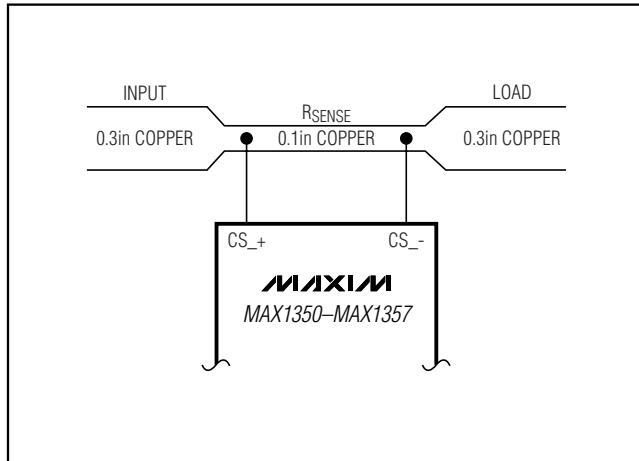
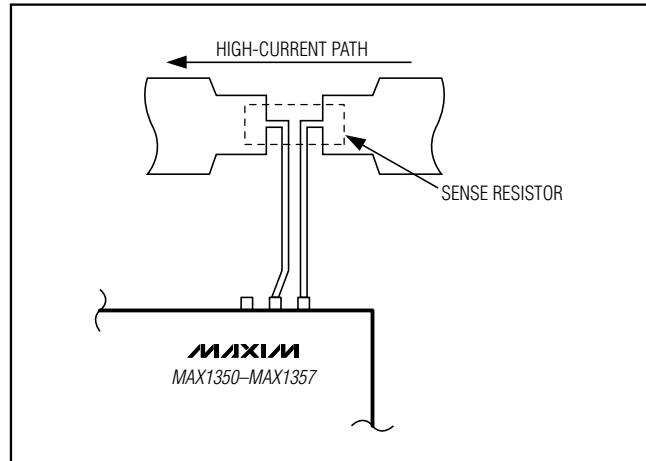

Figure 3. Using PC Board Trace for RSENSE
Figure 4. Kelvin Connects for Sense Resistors
5) Cost: If the cost of RSENSE is an issue, it may be preferable to use an alternative solution, as shown in Figure 3. This solution uses the PC board traces to create a sense resistor. Because of the inaccuracies of the copper resistor, the full-scale current value must be adjusted with a potentiometer. Also, copper's resistance temperature coefficient is relatively high (approximately 0.4%/°C).
In Figure 3, assume that the load current to be measured is 10A using a 0.3in-wide, 2oz copper trace. The resistance of 0.1in-wide, 2oz (70µm thickness) copper is 30mΩ/ft. For 10A, select RSENSE = 5mΩ for a 50mV drop at full scale. This resistor requires approximately 2in of 0.1in-wide copper trace.
The MAX1350–MAX1357 can achieve high-current measurements by using low-value sense resistors, which can be paralleled to further increase the current-sense limit (see Figure 3). As an alternative, PC board traces can be adjusted over a wide range. Minimize the trace length and ensure accurate sensing with Kelvin connections (see Figure 4).